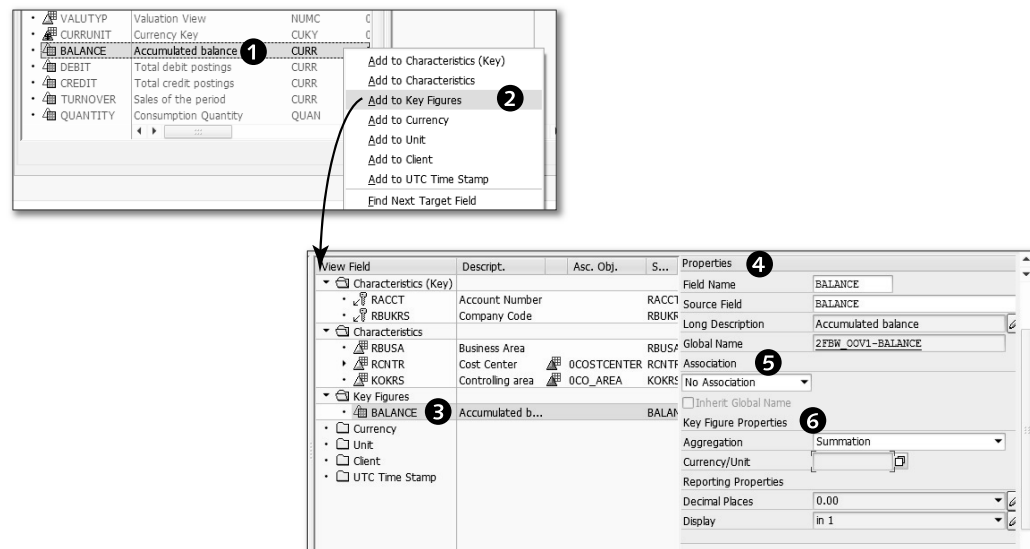

Figure 6.85 Adding Key Figure
Now let's discuss how to add key figures to an OOV. Select the BALANCE field as shown in ❶ of Figure 6.85. Using the context menu, select ADD TO KEY FIGURES ❷. This action places the BALANCE field in the KEY FIGURES section under the VIEW FIELD column ❸. Each key figure is also associated with a number of properties ❹. A few of these properties are similar to characteristics, which are ASSOCIATION ❺ and REPORTING PROPERTIES, but some properties, such as AGGREGATION ❻, are only available to key figures.